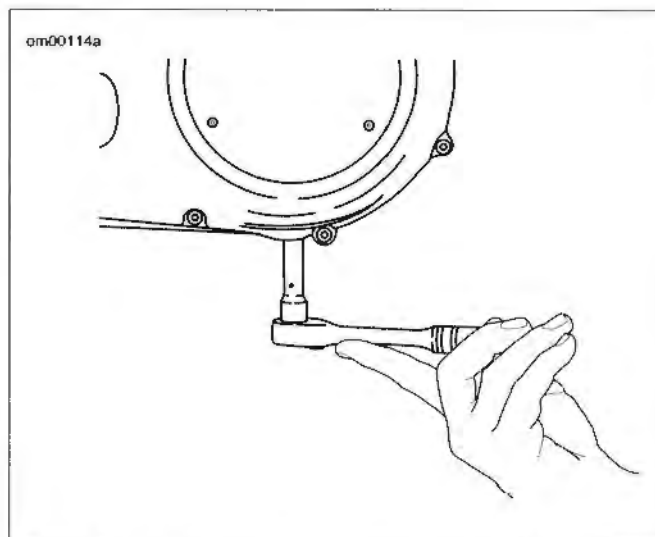

Figure 1-12. Removal/Installation of Chaincase Drain Plug
2. See Figure 1-12. Remove magnetic drain plug at bottom of primary chaincase. Drain lubricant into suitable container.